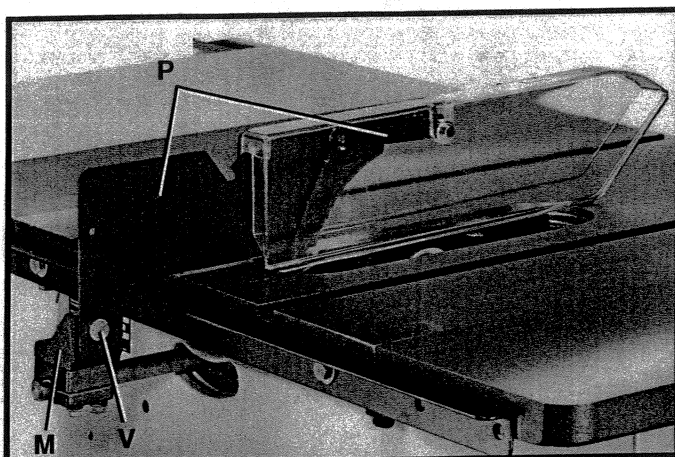
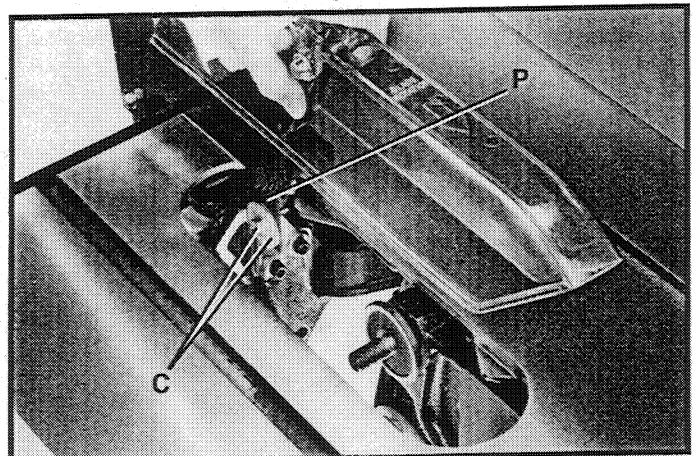

Fig. 42
Fig. 43
9. Loosely fasten splitter and blade guard assembly (P) Fig. 42, to bracket (M) using one-inch long screw (V) and flat washer. Insert the front end of splitter (P) Fig. 43, inside the splitter mounting bracket behind splitter fastener plate and screw (C). Push splitter down as far as possible, making certain the bottom edge of splitter (P) is parallel with the table surface. Tighten screw (C).